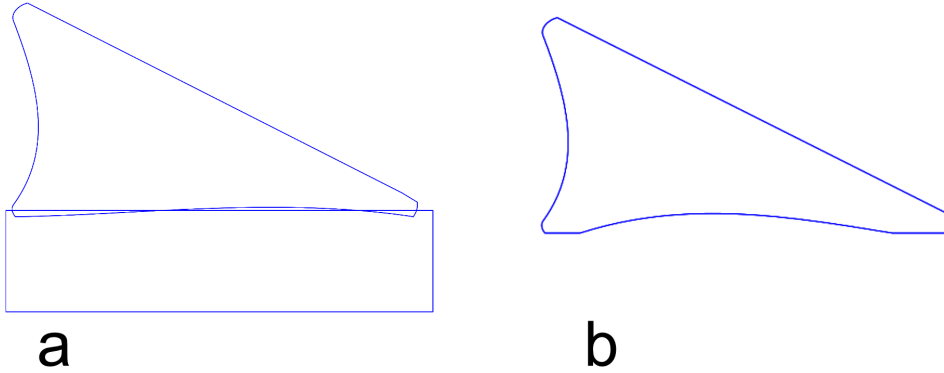

Figure 8.11 – Flattening the frame shape
- Using the techniques from the steps in the *Creating the basic shape* section, draw a box on the bottom (*Figure 8.11 a*) and use it to flatten the bottom of our shape by using **Path | Difference** to make the bottom of the shape flatter (*Figure 8.11 b*):